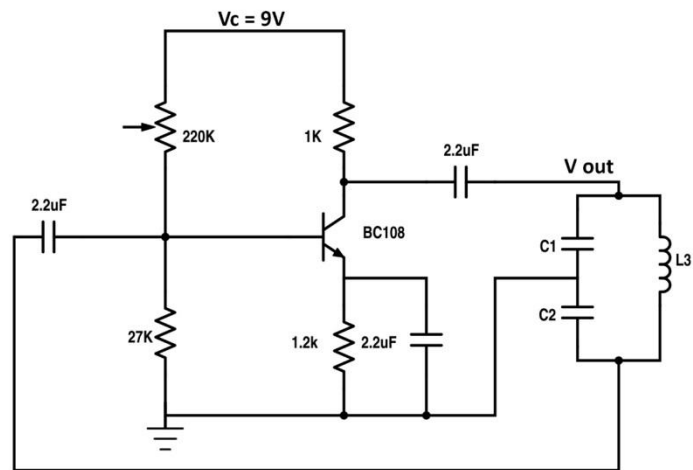

Figure 1
1. Connect the Colpitts oscillator as shown in Figure 1. Observe the variation of the shape of the output waveform when the potentiometer is varied. Record the output waveform and measure the periodic time of oscillations using the oscilloscope for the following combinations of  $C_1$ ,  $C_2$  and  $L_3$ .